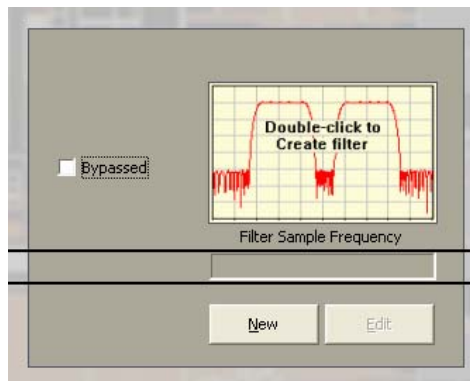

Figure 2
- Click on “New” (Figure 2)
- Double click on the filter thumbnail window (Figure 2)
- Right click anywhere in the filter box and select “new filter” (Figure 2)